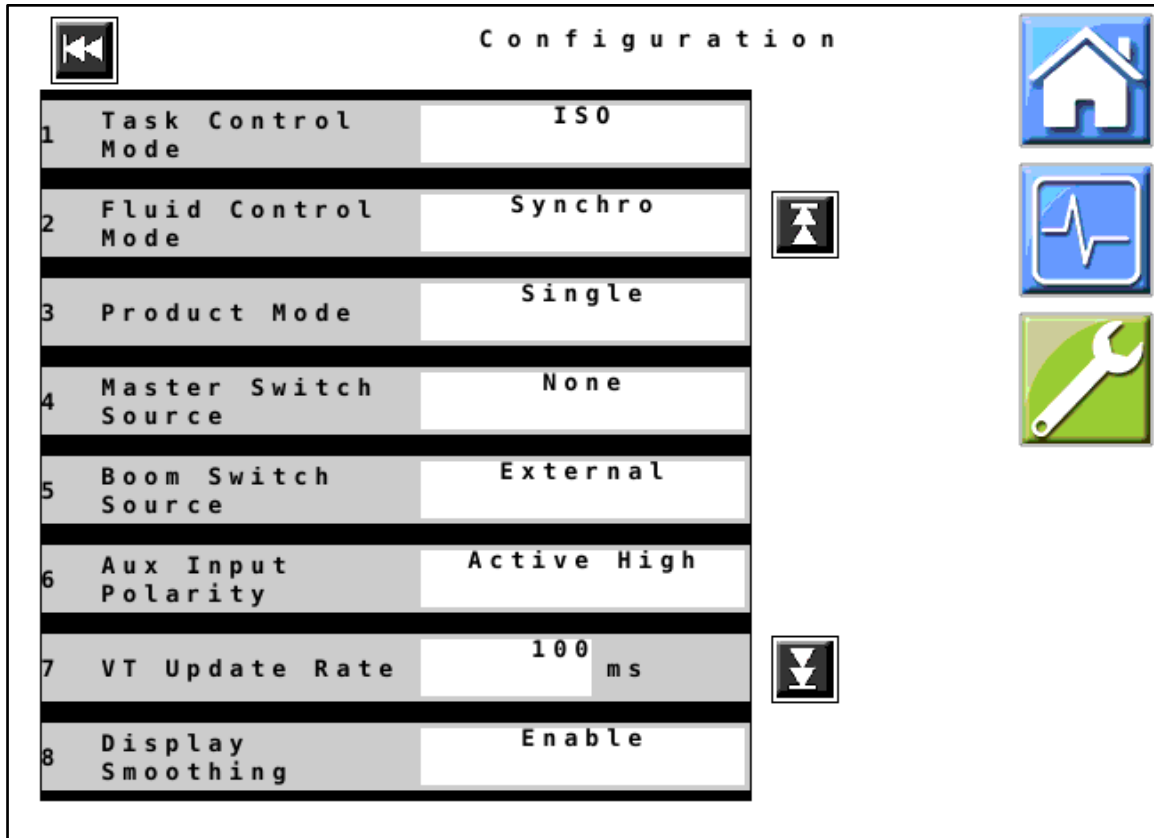

Figure 6 — Configurations Page 1
Note: ANYTIME you change settings, you MUST tap the **Settings** icon  to go into the **Settings** menu and select **Initial Setup > Configurations > Software Restart** to save settings. If the unit is turned off or loses battery power before this is done, the new settings will not be saved. Refer to *Figure 6* for the location of this function.
13. *Figure 6*: Verify that the data displayed in these fields on your unit correctly matches your machine's specifications.